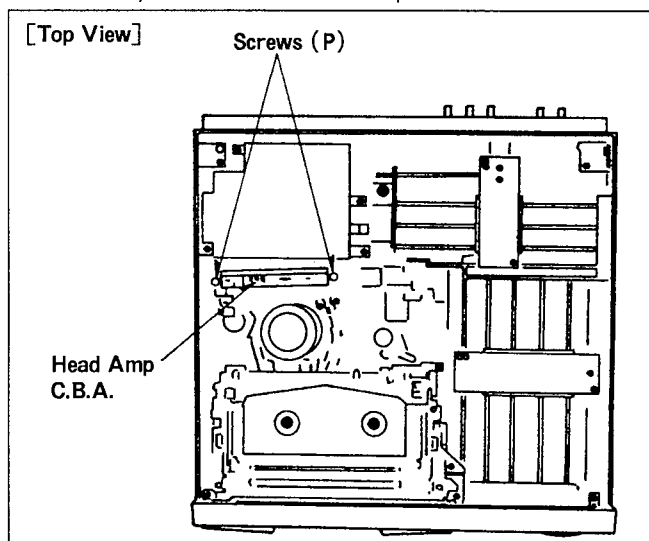

Figure D21
1. Unscrew the 2 screws (P) on the Head Amp C.B.A. (Figure D21)